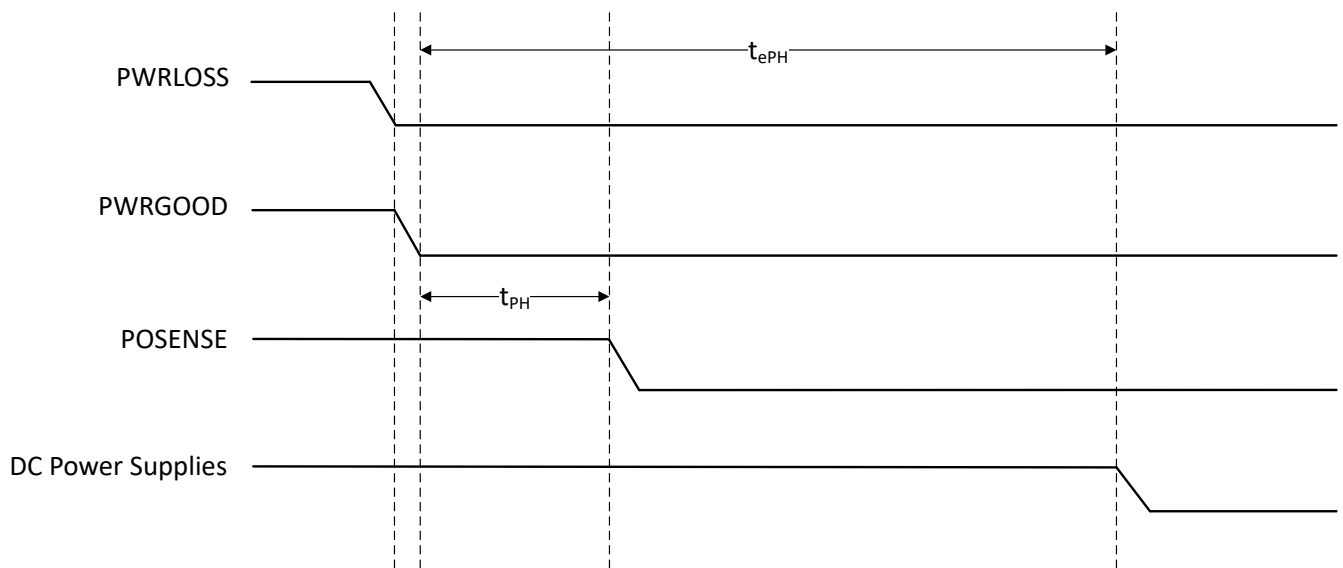

Figure 5-5. Unanticipated Power Loss Timing Diagram
2. An unanticipated power loss. In this case, a power loss detection circuit must provide a means of triggering a power loss. Figure 5-5 shows a timing diagram where the Voltage Monitor detects a power loss and deasserts PWRGOOD. **Power Regulation must maintain the DC Power Supplies until the minimum t_{ePH} is met.** During t_{ePH} the DLPC900 performs the necessary power-down sequence on the DMD. The power supplies can be allowed to drop below their specifications once the minimum t_{ePH} is met.